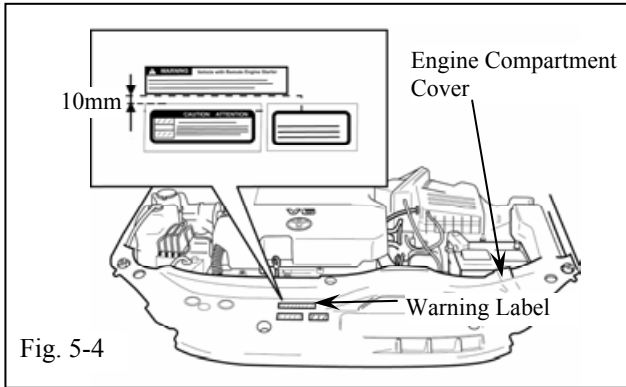

Fig. 5-4
- (f) Using VDC approved cleaner and cleaning method, clean the area indicated on the Engine Compartment Cover as shown. (Fig. 5-4)
- (g) Remove the Backing Sheet and attach the Warning Label to the Engine Compartment Cover 10mm above the Vehicle Label's Placement Box. Do not touch the Label's Adhesive Surface. (Fig. 5-4)